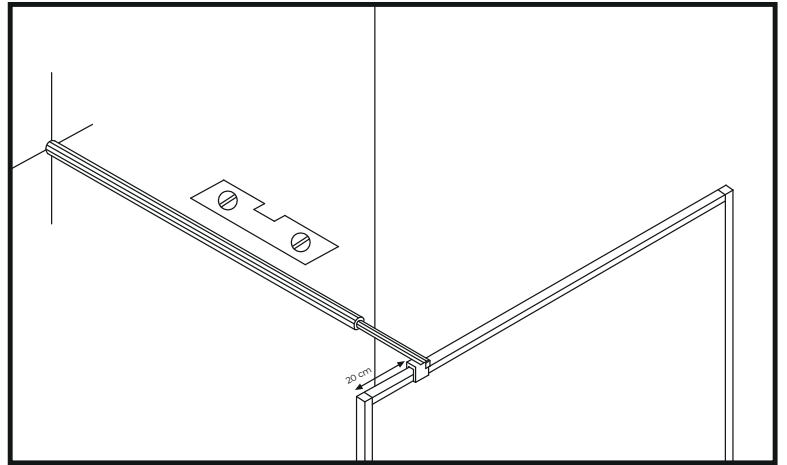

Figure 9
20. Install the telescopic tube at a 90-degree angle to the wall. The glass clamp must be positioned no more than 20 cm from the corner of the glass. (Figure 9)
22. Carefully place the telescopic tube onto the U-profile mounted on the glass, in the pre-measured and planned position. Make sure that the telescopic tube is vertically level. (Figure 9)